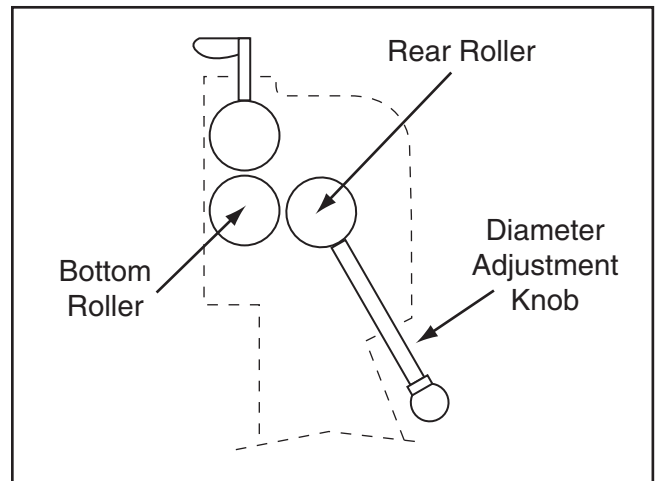

Figure 18. Bottom and rear rollers even.
1. Use the diameter adjustment knobs to lower the rear roller until it is even with the level of the bottom roller, as illustrated in **Figure 18**.